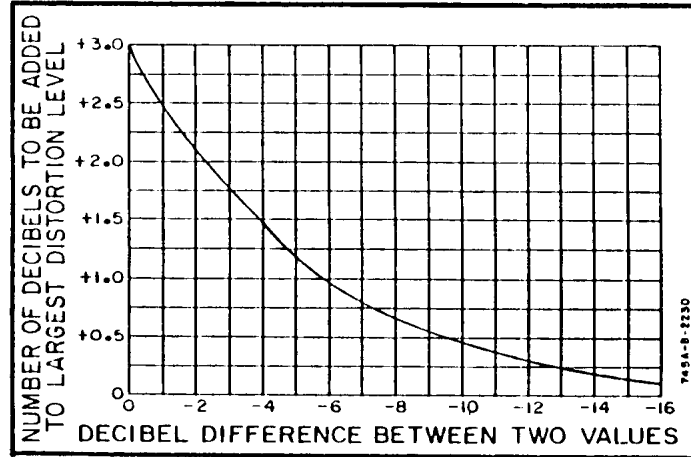

Figure 4. Addition of harmonic components.
- (4) Set spectrum analyzer **CENTER FREQUENCY** to 20 Hz, **FREQUENCY SPAN** to 100 Hz, and **IMPEDANCE** to 1 MΩ.
- (5) Adjust spectrum analyzer to indicate center frequency and record amplitude.
- (6) Press calibration fixture **MODE** pushbutton to **NOTCH** (in).
- (7) On 20 Hz measurements only, press calibration fixture **ATTEN** pushbutton to **-60 dB** (in).
- (8) Adjust spectrum analyzer to indicate second harmonic. Record amplitude.
- (9) Record difference between amplitude recorded in (8) above and amplitude recorded in (5) above. This is second harmonic amplitude.
- (10) Adjust spectrum analyzer to indicate third harmonic. Record amplitude.
- (11) Record difference between amplitude recorded in (10) above and amplitude recorded in (5) above. This is the third harmonic amplitude.
- (12) Calculate total harmonic distortion using figure 4.
If second harmonic in (9) above, is -110 dB and third harmonic in (11) above is -114 dB, dB difference is -4 dB. In figure 4 this intersects the curve at +1.5 level. The total harmonic distortion is the largest harmonic amplitude plus number determined in figure 4, (-110 dB + 1.5 dB = -108.5 dB).
- (13) Total harmonic distortion (THD) will be less than -93 dB.
- (14) Repeat technique of (3) through (13) above for each setting listed in table 7. THD will be within limits specified.
- (5) Adjust spectrum analyzer range to +10dB, sweep time to 20 Sec, and sweep to **CONT**.
- (6) Adjust spectrum analyzer control knob to peak the marker amplitude and the frequency control for a 1-kHz center frequency. After a few sweeps, press **SINGLE**. Record spectrum analyzer dB indication.
- (7) Set **FUNCTION** switch to **DISTORTION**.
- (8) Adjust **DISTORTION RANGE** control for an upscale reading or until TI reaches -80 dB.
- (9) Add **DISTORTION RANGE** switch setting and spectrum analyzer dB indication of center frequency. Total dB change will be greater than 100 dB below indication recorded in (4) above.
- (10) If fundamental rejection is not >-100 dB, perform **b** below.
- (11) Adjust spectrum analyzer to observe amplitude of second harmonic of center frequency.
- (12) Add **DISTORTION RANGE** switch setting and spectrum analyzer dB indication. Subtract this value from indication recorded in (4) above and record.
- (13) Adjust spectrum analyzer to observe amplitude of third harmonic of center frequency.
- (14) Add **DISTORTION RANGE** switch setting and spectrum analyzer dB indication. Subtract this value from indication recorded in (4) above and record.
- (15) Calculate the induced harmonic distortion using figure 4.
Determine the difference in amplitude of second harmonic in (10) above and third harmonic in (11) above. Add dB number in figure 4 to largest value of harmonic amplitude.
(16) Induced distortion will be <-95 dB.
(17) Repeat technique of (1) through (14) above for fundamental rejection and induced distortion measurements using settings listed in table 8. Fundamental rejection and induced distortion indications will be within limits specified.